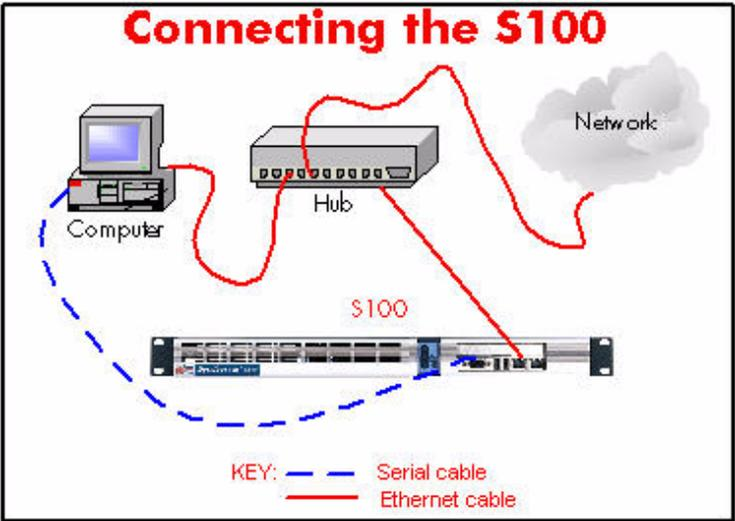

Fig. 1: Connecting Serial and Ethernet cables to the S100
1. Connect the S100 to your PC using the Serial cable (see Fig. 1).